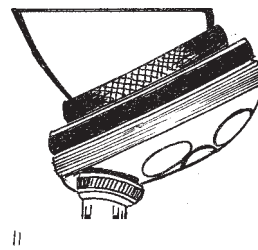

Fig. 3.4
- The nose-piece is attached under the arm of the microscope tube. The nose-piece (Fig. 3.4) houses the objectives and rotates them. The objectives are arranged in sequential order of their magnifying power, from lower to higher. This helps to prevent the immersion oil from getting onto the intermediate objectives.